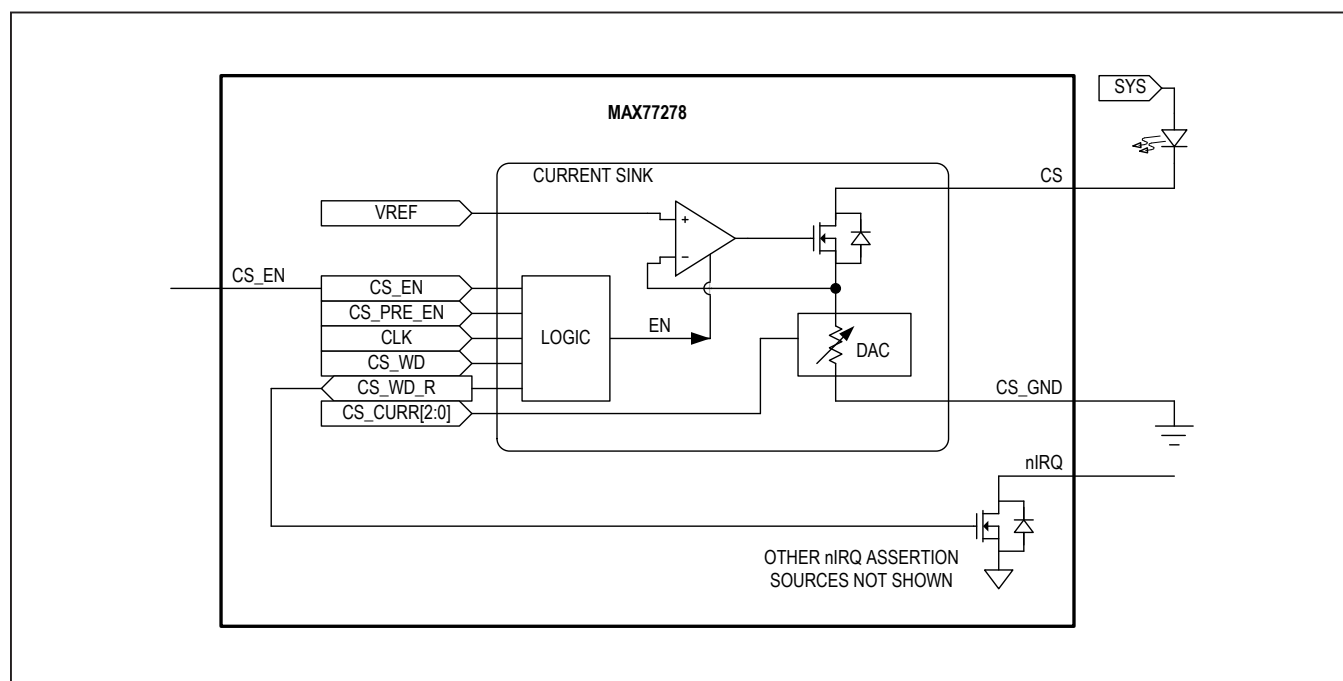

Figure 21. Current Sink Simplified Block Diagram
The device has a current sink driver (CS) designed to drive infrared LEDs in portable devices. See Figure 21. CS can also be used as a general-purpose current sink for other applications. The driver's on-time and frequency are set by directly driving the CS_EN pin high or low. The regulated current value is I²C programmable from 250mA to 425mA in 25mA increments.